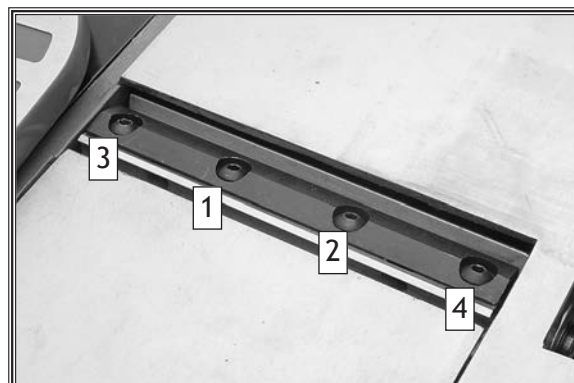

Figure 42. Knife clamp screw tightening sequence.
6. Install one knife, clamp it in the cutterhead, and slightly tighten each of the clamp screws in sequence, as shown in **Figure 42**.
9. Follow the tightening sequence and final tighten each of the clamp screws for both knives, as shown in **Figure 42**.